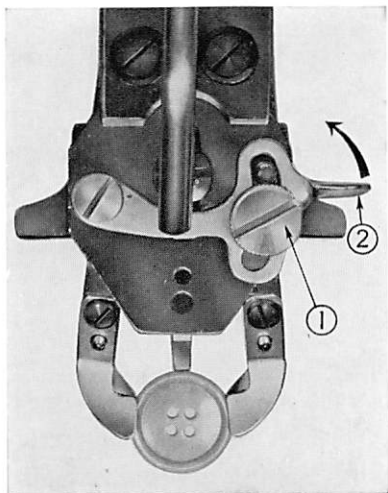

Fig. 22
21. ADJUSTING THE BUTTON CLAMP STOP LEVER (Fig. 22)
With the machine at stop motion position, loosen the button clamp stop lever set screw ① and as the button clamp foot will either open or close by the action of button clamp lever ②, set the button correctly as shown in Fig. 22 and after making it easy for the button to be inserted or taken out, tighten the clamp screw ①.